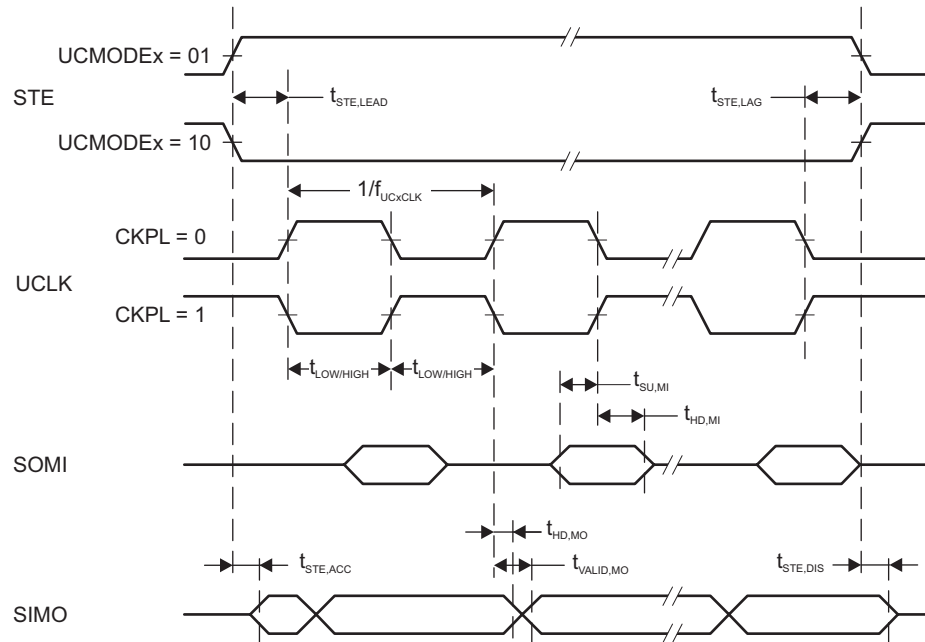
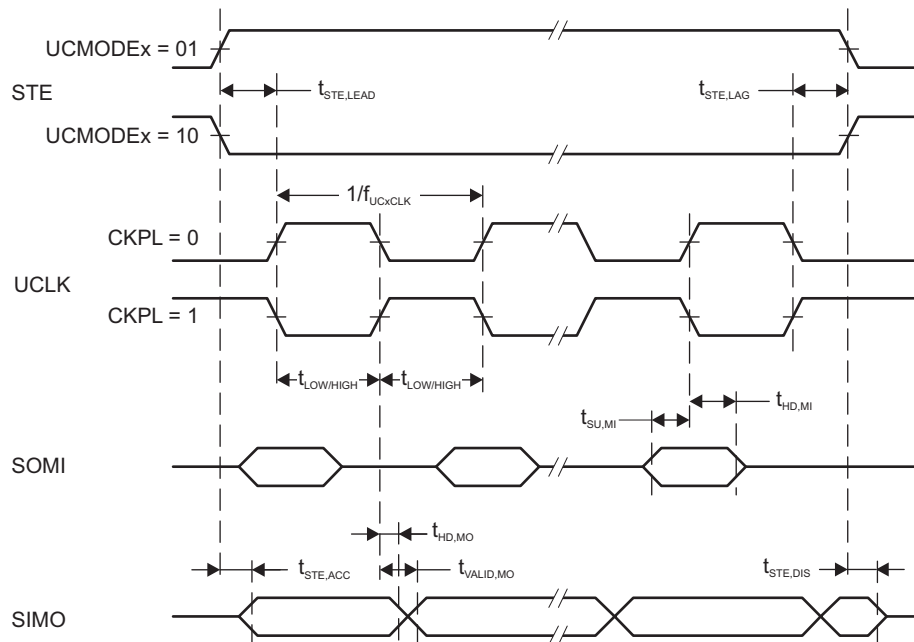

Figure 5-69. SPI Master Mode, CKPH = 0
Figure 5-70. SPI Master Mode, CKPH = 1
(2) Specifies the time to drive the next valid data to the SIMO output after the output changing UCLK clock edge. Refer to the timing diagrams in Figure 5-69 and Figure 5-70.
(3) Specifies how long data on the SIMO output is valid after the output changing UCLK clock edge. Negative values indicate that the data on the SIMO output can become invalid before the output changing clock edge observed on UCLK. Refer to the timing diagrams in Figure 5-69 and Figure 5-70.